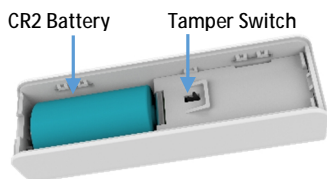

Figure 3
4. If network is not found after 30 seconds, the sensor will go into sleep mode. To wake the sensor again, you need to use magnet or tamper (Figure 3) to trigger a paring process, and then sensor will repeat steps from 3 to 4.